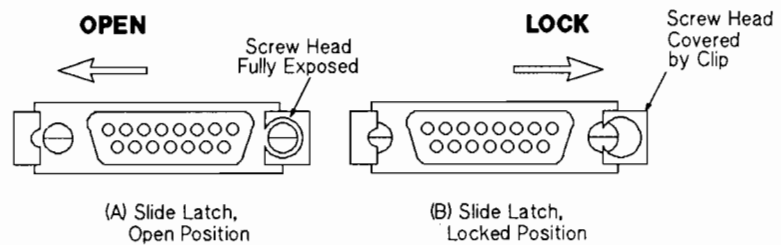

Figure C-2. Securing Cable Hold-Down Clips
- a. Slide the hold-down clip to the “open” position (see Figure C-2(A)).
- c. Slide the hold-down clip to the “locked” position (see Figure C-2(B)). This hold-down clip prevents accidental cable disconnection during operation.